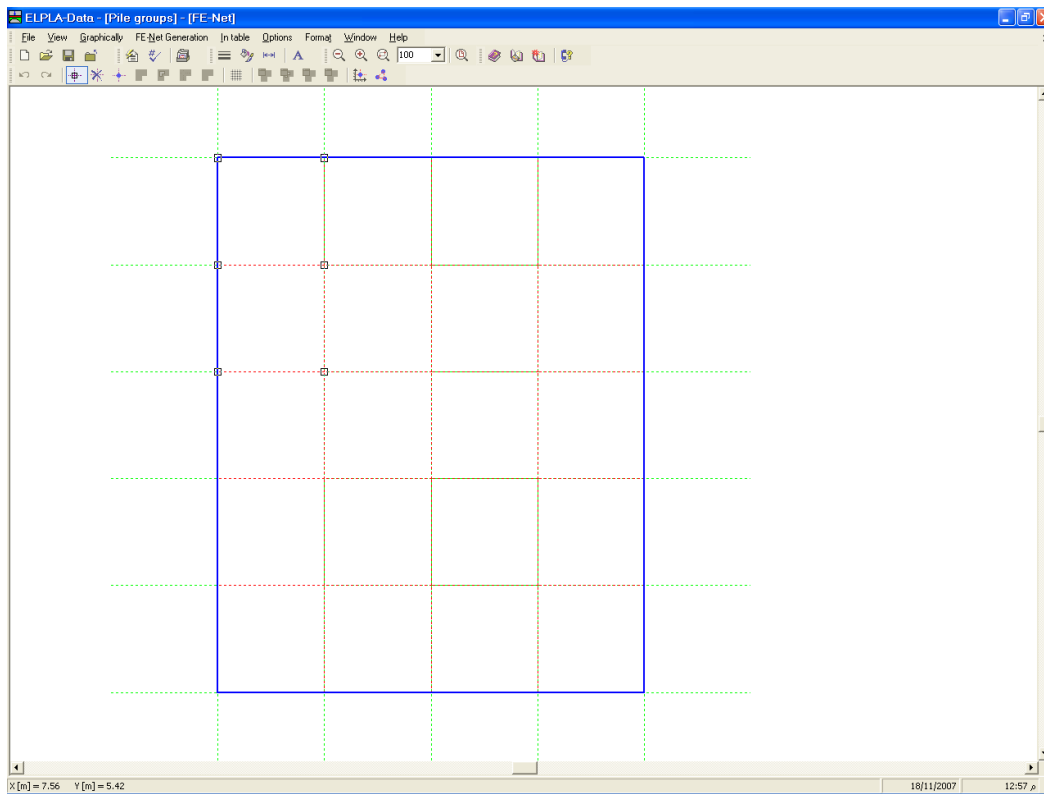
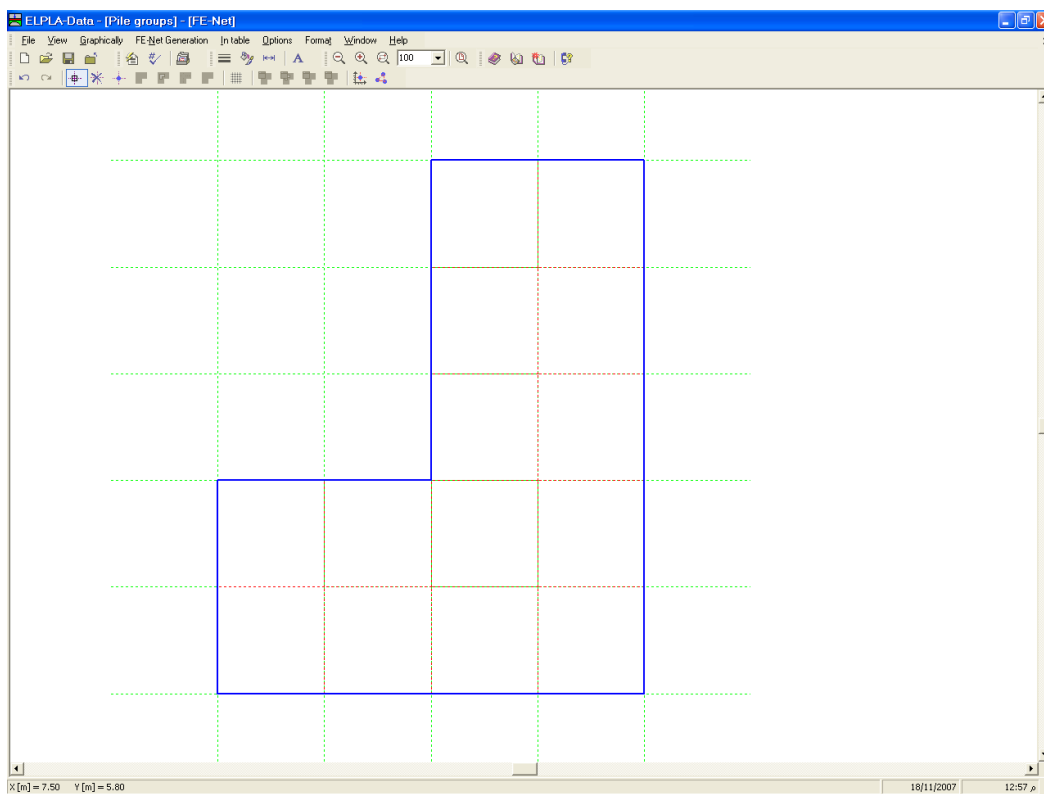

Figure 11-13 Generated FE-Net after selecting the unnecessary nodes
Figure 11-14 Final FE-Net after deleting the unnecessary nodes
To select the unnecessary nodes that are required to be removed from the net, first choose "Select nodes" command from "Graphically" menu. When "Select nodes" command is chosen, the cursor will change from an arrow to a cross hair. The command "Remove nodes" in the menu "Graphically" will be enabled, indicating the mode in which is being operated. Next, select the required nodes by clicking on each node individually or selecting a group of nodes as shown in Figure 11-13. To remove the selected nodes, choose "Remove nodes" command from the "Graphically" menu. The action of this command is indicated in Figure 11-14.
- Choose "Save FE-Net" command from "File" menu in Figure 11-14 to save the data of the FE-Net
- Choose "Close FE-Net" command from "File" menu in Figure 11-14 to close the "FE-Net" embedded program and return to the main window of *ELPLA-Data*